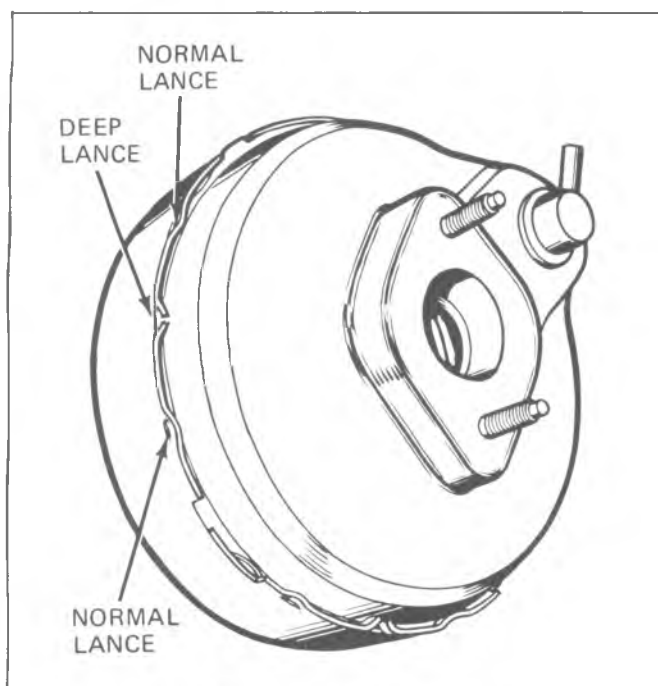

Fig. 5-3B—Lances in Rear Housing
9. The edge of the rear housing contains twelve (12) lances. Four (4) of these lances (one in each quadrant) are deeper than the other lances. The metal that forms the four (4) deep lances must be partially straightened so that the lances will clear the cutouts in the front housing. If the metal tabs that form the deep lances break during straightening, the housing must be replaced (fig. 5-3B).